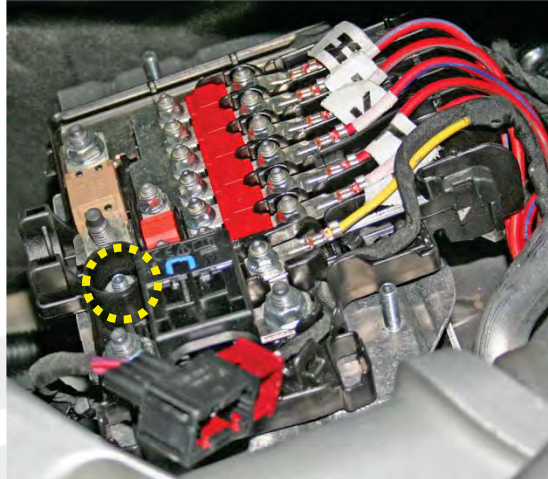

Figure 6
6. Remove the nut that secures the fuse box to the bracket (Figure 6).
35. Reinstall the nut that secures the fuse box to the bracket (torque 6 Nm) (Figure 6).